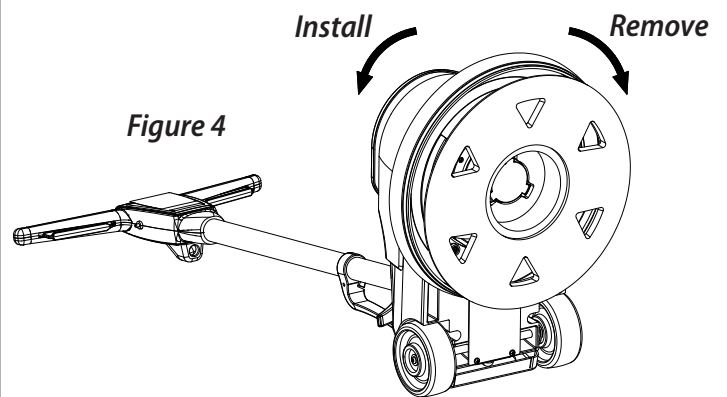

Figure 4
- 4 Put one foot on each side of the machine (see Figure 4).